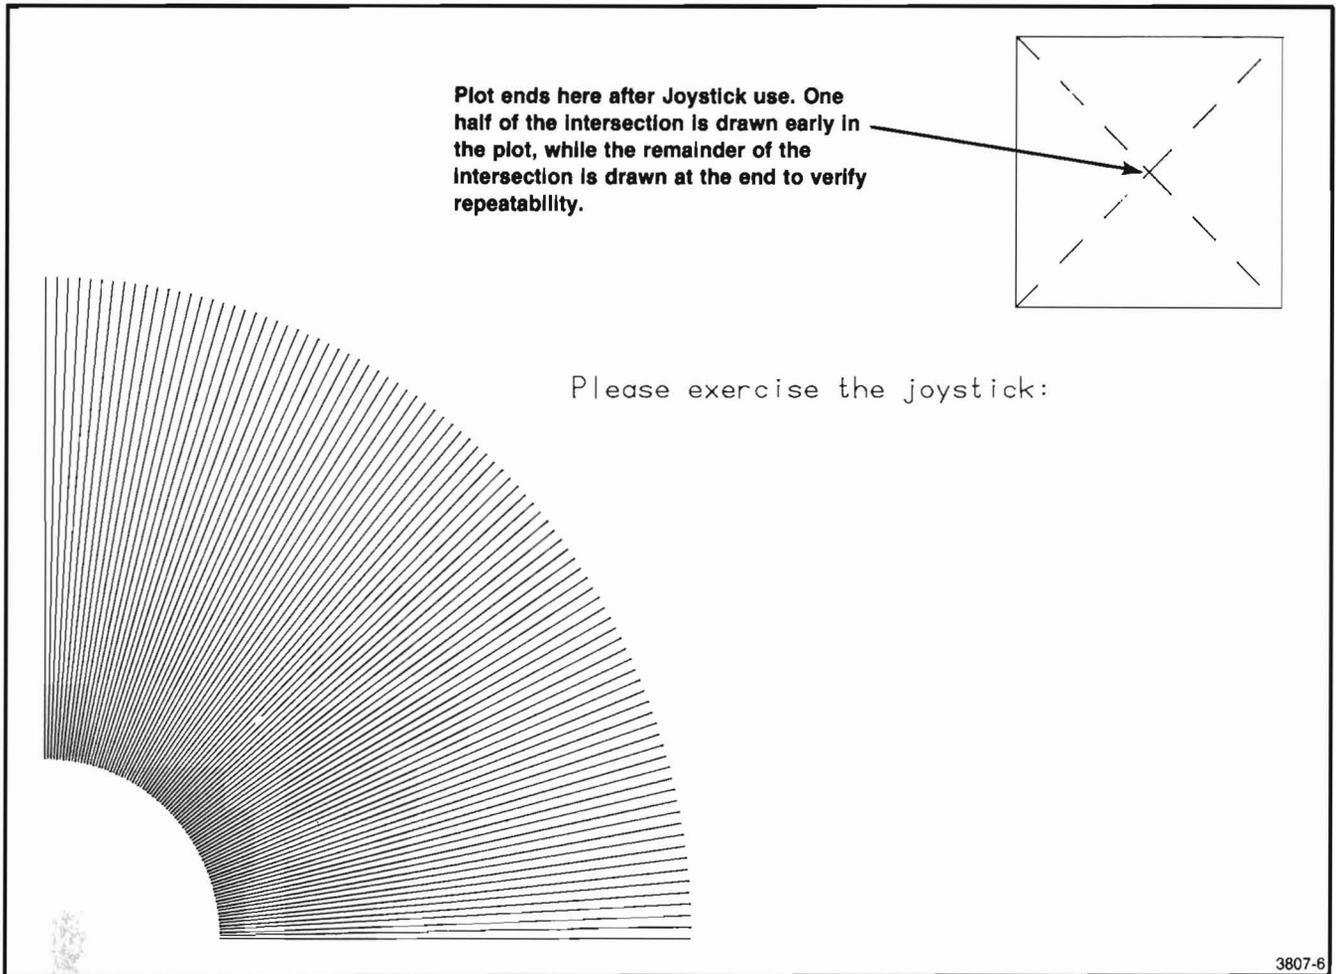

Figure 2-6. Test Pattern Drawn by Self-Test Feature.
If you set the parameters as directed in Using the Parameter Entry Card, earlier in this section, the Parameter Entry Card is set correctly and the plot will appear as shown in Figure 2-6.
In the next step, the Plotter will draw a test pattern. During this test, the Plotter draws a box with two dashed lines extending diagonally from corner to corner and intersecting at the center of the box (see Figure 2-6). The Plotter then draws a fan pattern in the lower-left corner of the Page. Next, the message "Please exercise the Joystick" is printed. At this time, use the Joystick to reposition the pen carriage. After a short period, the Plotter resumes plotting and redraws the intersection of the dashed diagonal lines within the box. This demonstrates the Plotter's ability to repeatedly draw vectors at the same location on the media, even if the Joystick has repositioned the pen carriage.
- c. **Press** the switch above 1 to draw the plot shown in Figure 2-6.
If these tests are successful, the Plotter is operational. If the resultant plot is different from that shown in Figure 2-6, check these selections on the following Parameter Entry Card lines: Media Form, Initial Page Size, Initial Page Format, Page Orientation, Initial Aspect Ratio, and Initial Access Orientation. If any of these lines have other than the left-most switch selected, the self-test plot will appear different from the plot shown in Figure 2-6. If the plot is greatly different, call your Tektronix Service Representative.